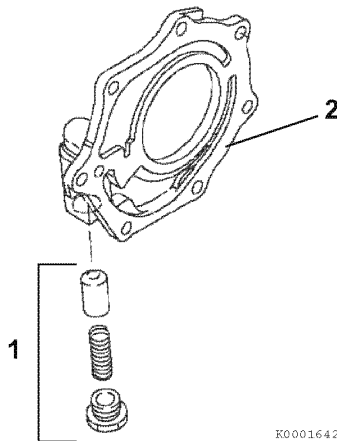

Figure 9-7
6. Remove the oil pressure regulator valve (1, **Figure 9-7**) from the oil pump cover (2, **Figure 9-7**).